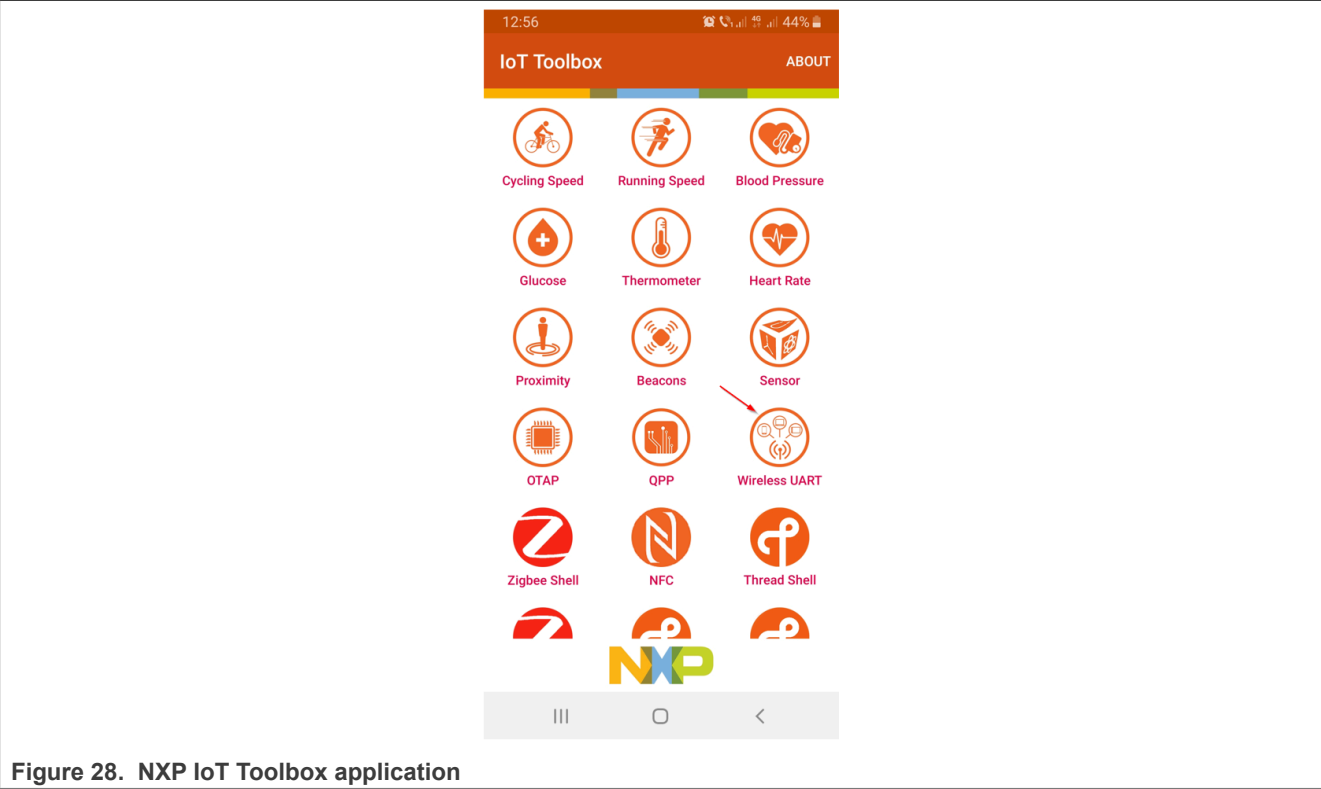

Figure 28. NXP IoT Toolbox application
6. Open the *IoT Toolbox* application and select the **Wireless UART** icon, as shown in Figure 28.